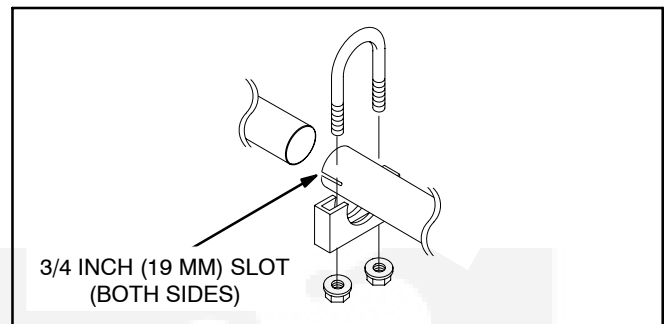

FIGURE 8-4. TAIL PIPE CONNECTIONS
2. Use U-bolt muffler clamps (available from Onan) for tail pipe connections. Overlapping pipe should be slotted (Figure 8-4).